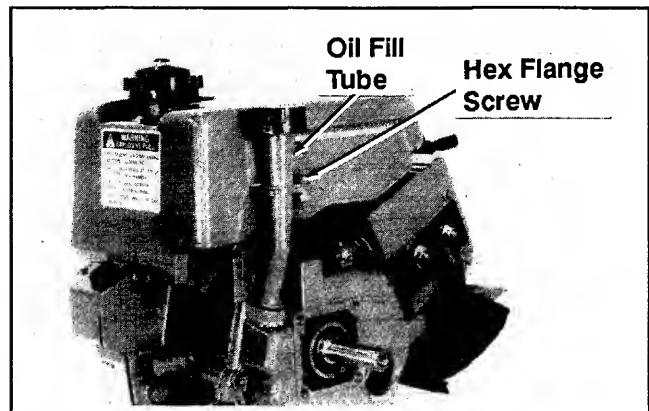

Figure 9-5. Removing Oil Fill Tube On CH5. (Earlier Tank Mounting Shown.)
1. Remove the hex. flange screw and nut securing the oil fill tube to the fuel tank. See Figure 9-5.